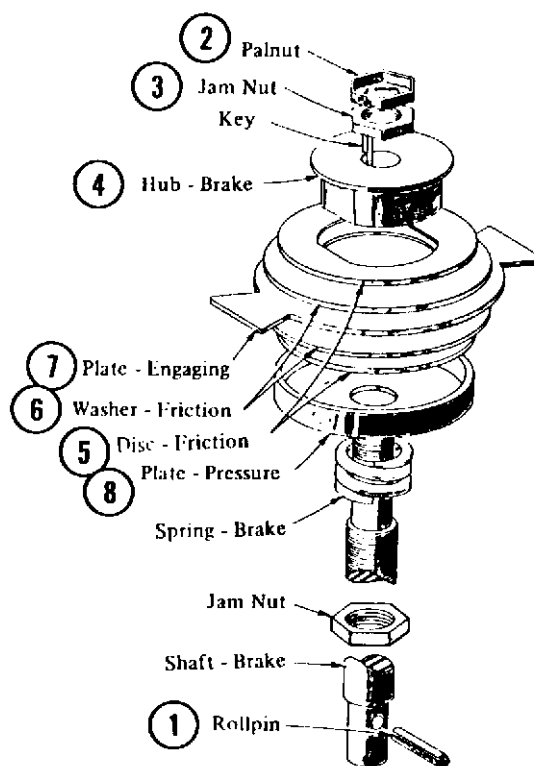

Fig. 9-1
- (1) Drive out the pin (1, Fig. 9-1) and lift the brake assembly out of the planetary shaft.
- (1) Remove the palnut (2, Fig. 9-1) and the jam nut (3, Fig. 9-1).
- (2) Lift off the hub (4, Fig. 9-1) and key, friction discs (5, Fig. 9-1), friction washers (6, Fig. 9-1), engaging plate (7, Fig. 9-1) and the pressure plate (8, Fig. 9-1).
- (3) Inspect all parts. Replace any worn part and assemble in the reverse order of disassembly.
- (4) Adjust the brake. Refer to: Adjustments "Brake Adjustment".